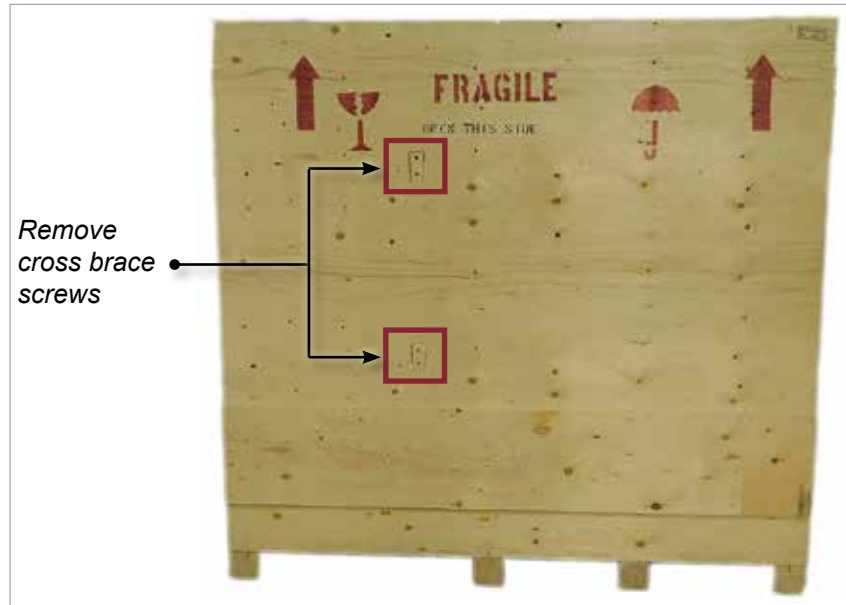

Figure 3-7 Remove cross brace screws
- From the side of the crate marked with “FRAGILE OPEN THIS SIDE”, remove the cross brace screws. See Figure 3-7.